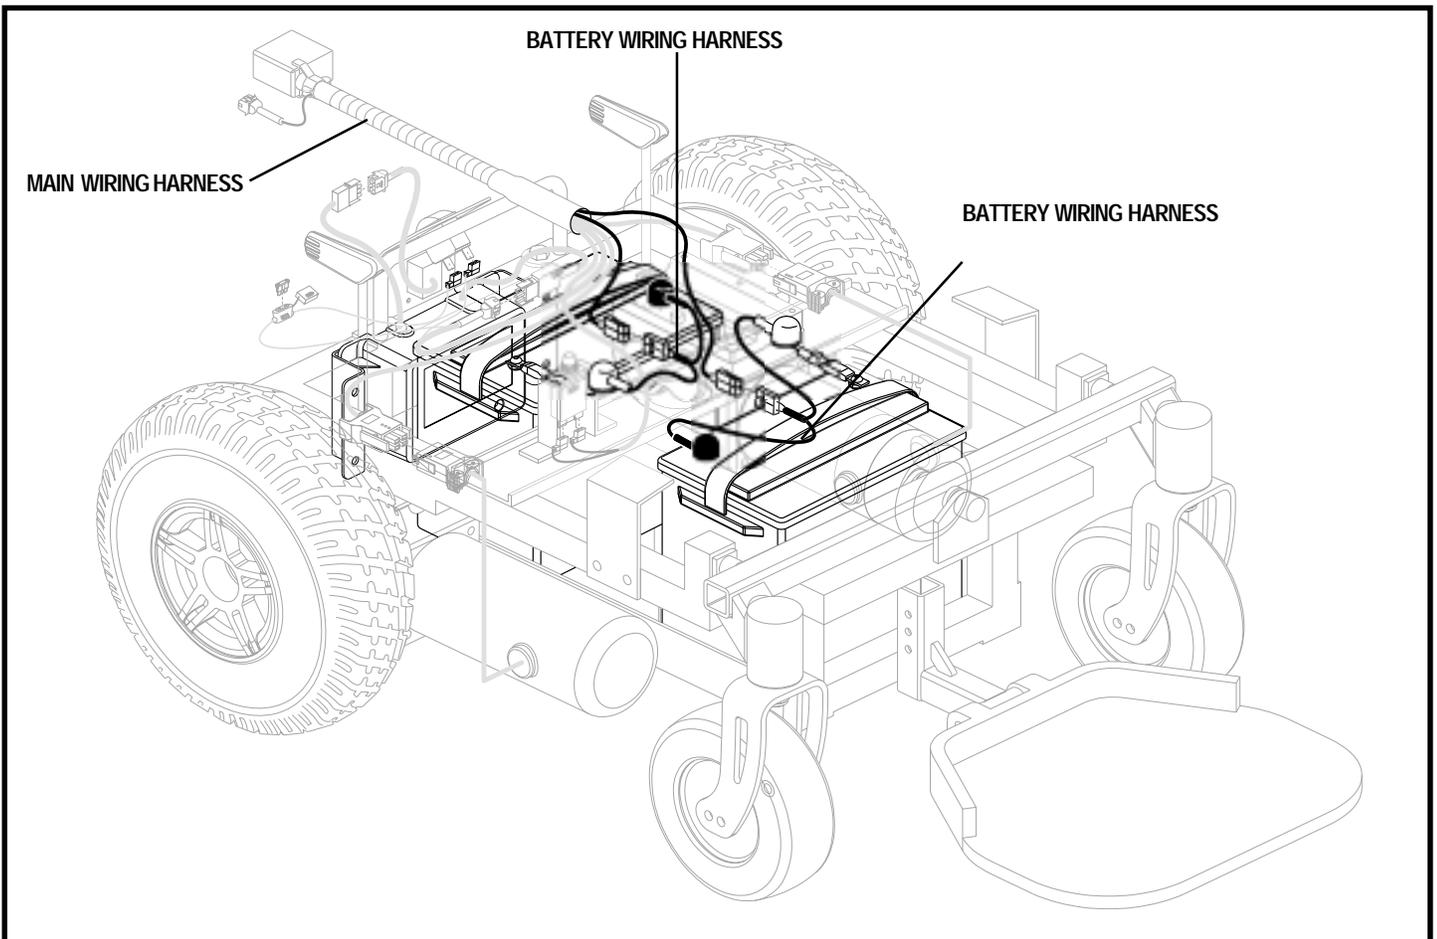

Figure 23. Flash Battery Connections
6. Disconnect the batteries from the main wiring harness. See figure 23.